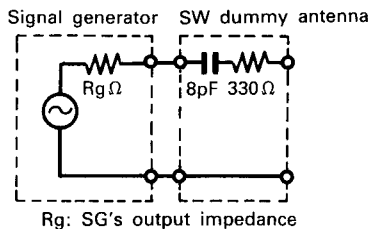

Fig. 12
2. SW dummy antenna shows Fig. 12.